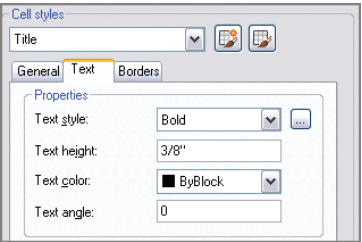

FIGURE 15.17 Editing the Title cell style text properties
4. Select the Text tab within the Modify Table Style: Standard dialog box. Open the Text Style drop-down menu, and select Bold. Double-click the Text Height text box, and type **3/8"** (or **0.80 cm**) (see Figure 15.17).